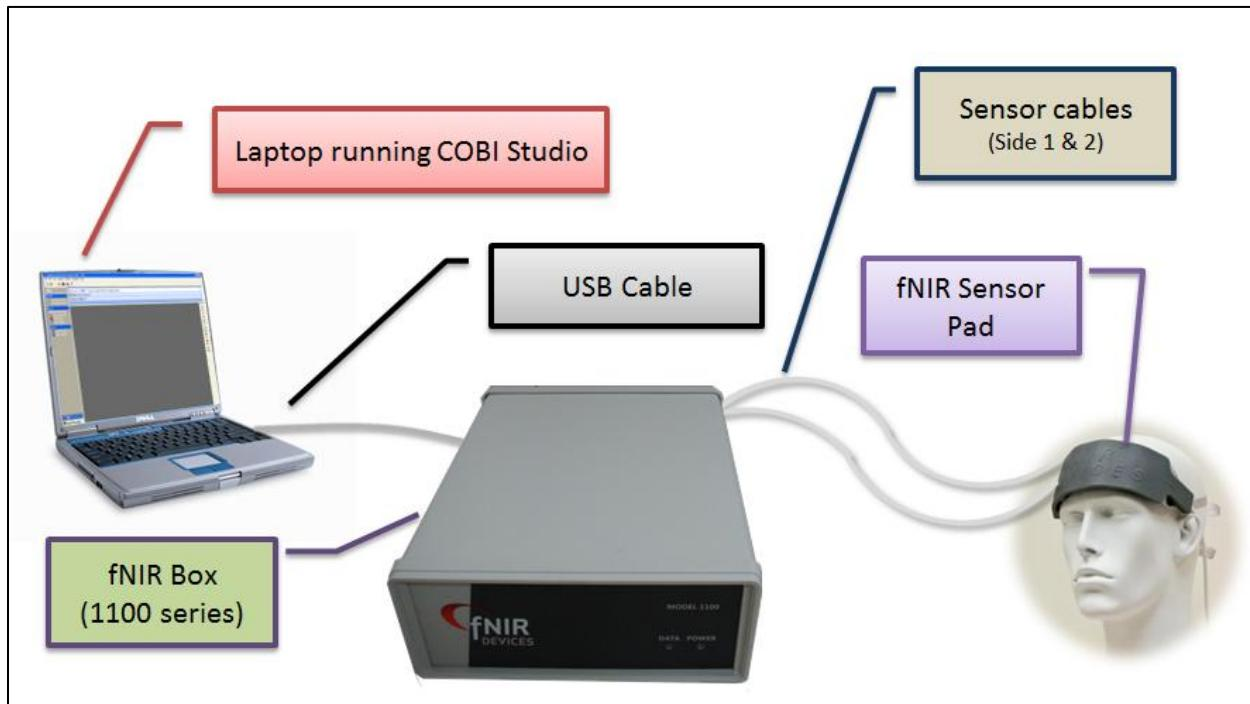
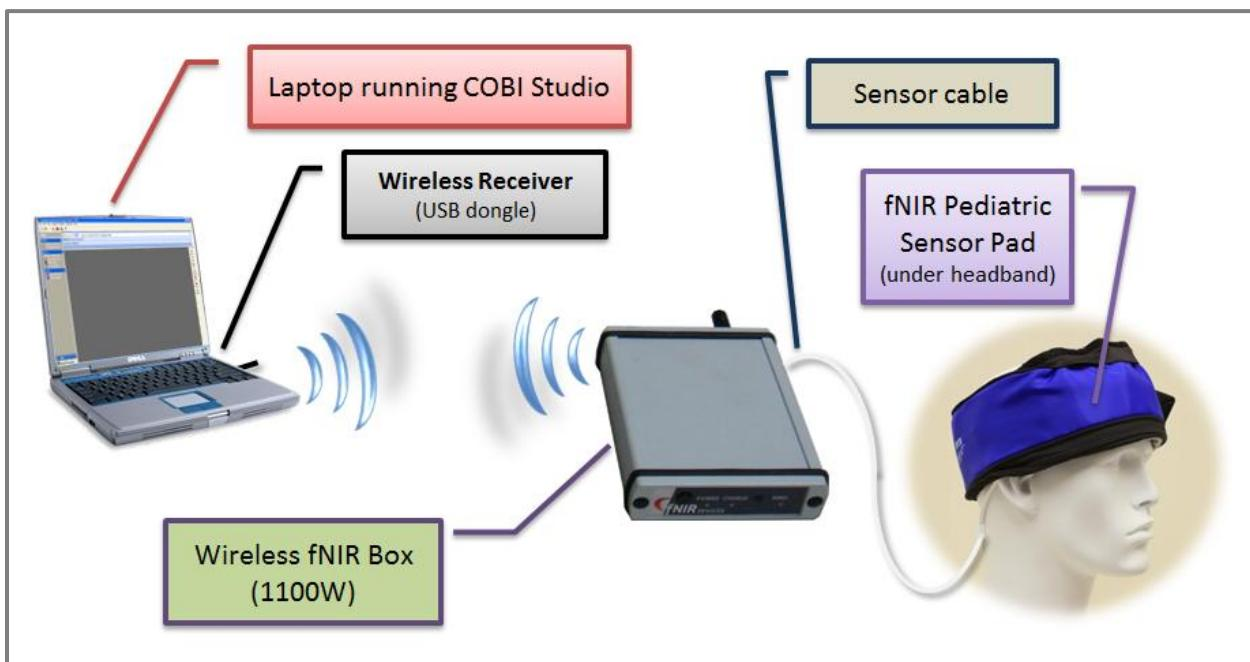

Figure 2 Components of fNIR Model 1100 System
Figure 3 Components of fNIR Model 1100W System
Cognitive Optical Brain Imaging (COBI) Studio is a hardware integrated software platform that enables users to acquire process and visualize fNIR signals. Figure 2, below depicts the components of the current fNIR Model 1100 system. And, Figure 3, depicts the system components of fNIR Model 1100W.
4. Click 'Next' to advance to the next step. Select "Search for the best driver in these locations" as shown in Figure 3. Make sure that the wizard searches the driver directory on the disc containing the driver file: `usb_cdc_driver_cc2531.inf`.